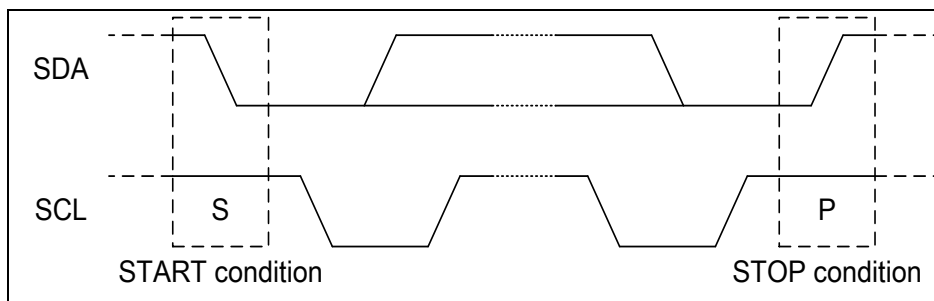

Figure 9 Definition of START and STOP Condition
Both SDA and SCL lines remain HIGH when the bus is not busy. A HIGH-to-LOW transition of SDA, while SCL is HIGH is defined as the START condition (S). A LOW-to-HIGH transition of SDA while SCL is HIGH is defined as the STOP condition (P). The START and STOP conditions are illustrated in **Figure 9**.